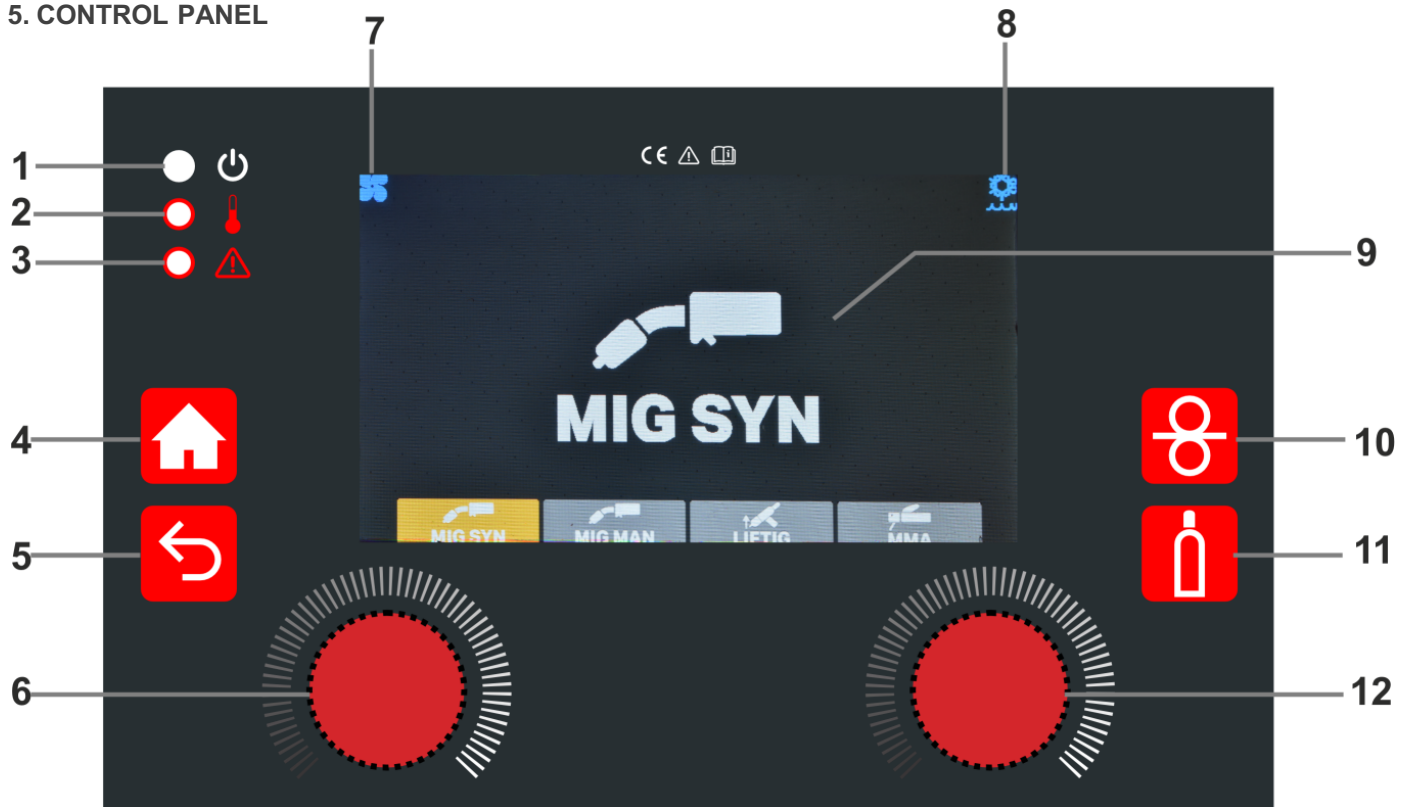
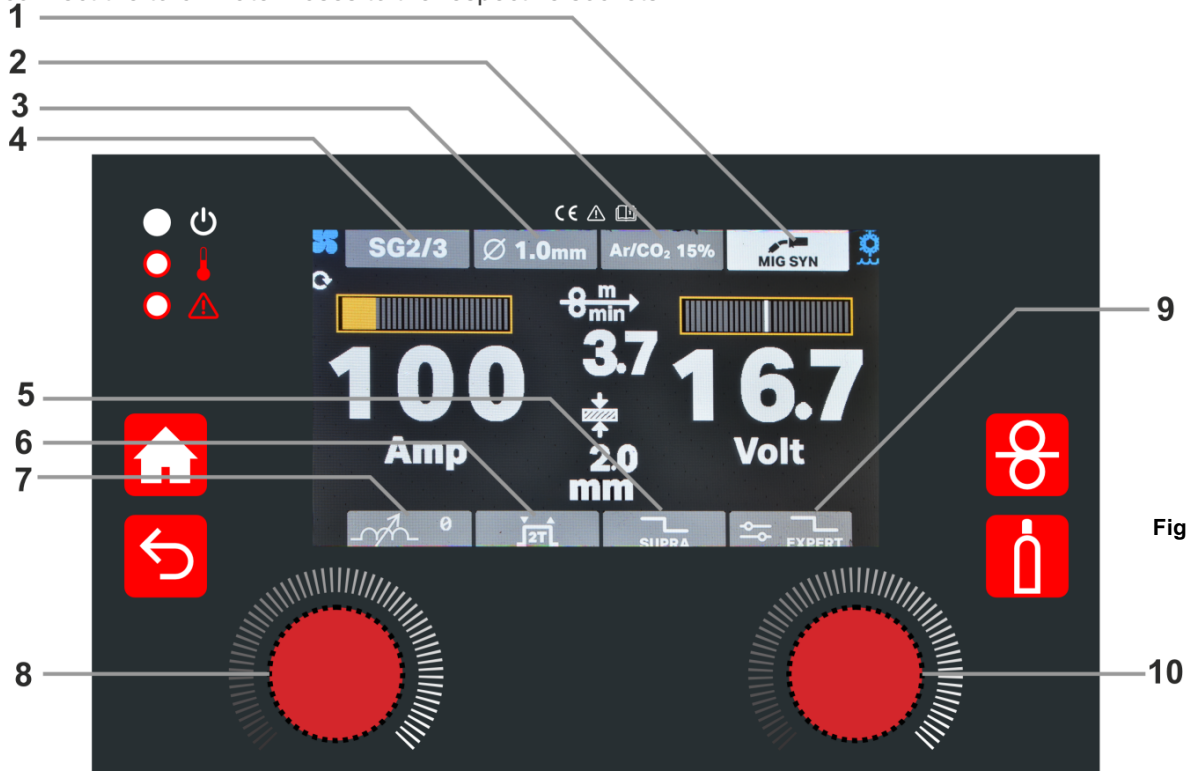
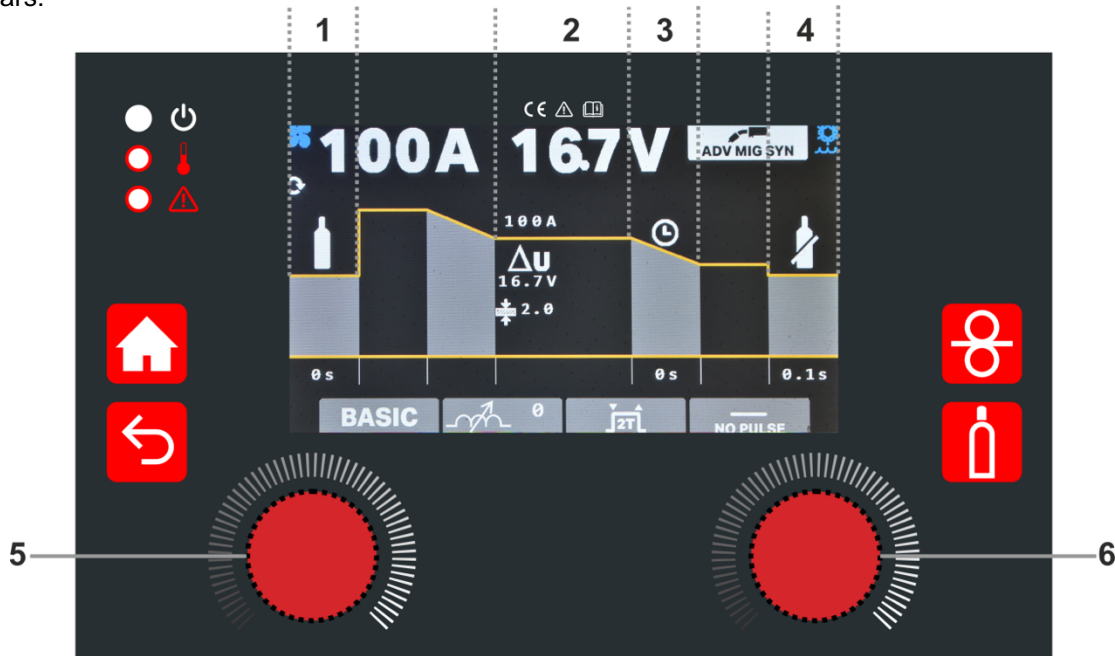
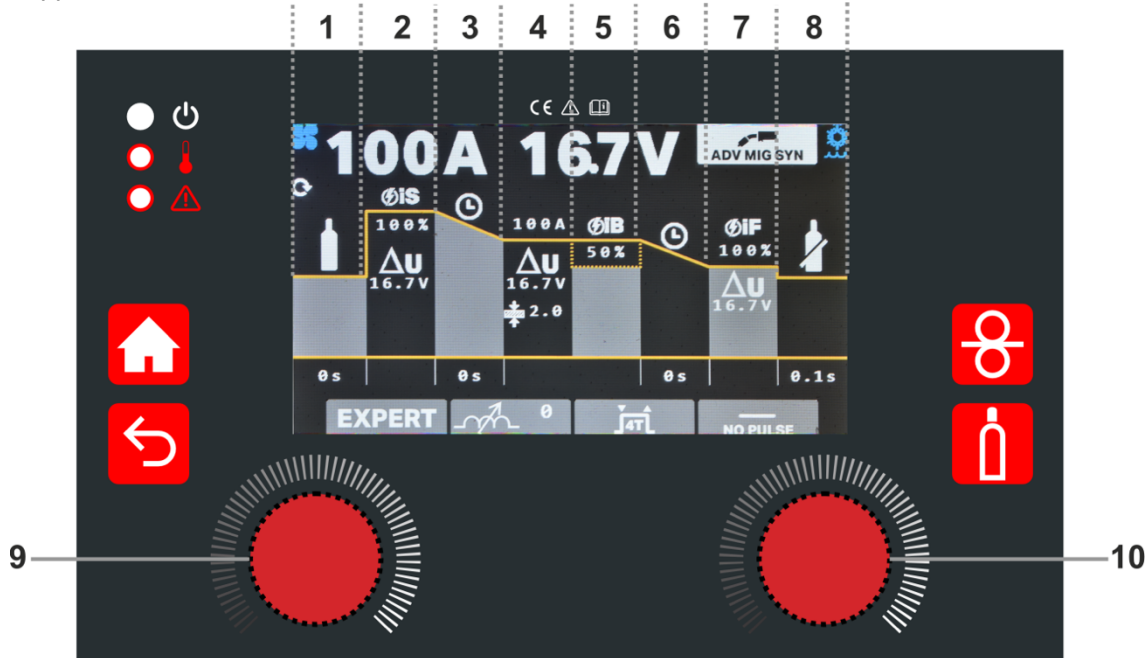

Fig 1.
Fig 5.
Fig. 6
Fig. 8
- Choose the gas type according to the selected welding program on Fig.6 – Welding programs at the following page.
Select MIG/MAG SYN welding mode by pressing right side encoder (10 - Fig. 5) on the respective menu item. You have entered the MIG SYN mode in which you can visualize the respective mode status (1 – Fig.1)
- All menu items when clicked turn red to set their value. Select the material to be welded (menu item 4 – Fig. 5), wire diameter (menu item 3 – Fig. 5) and gas type (menu item 2 – Fig. 5) with right side encoder (10 - Fig. 5) according to the following synergic programs tables:
- Adjust the inductance (menu item 7 – Fig. 5) with right side encoder (10 - Fig. 5): less inductance (narrower arc, more penetration) and more inductance (wider arc, more filling).
- Within the synergic program, you can adjust the welding current with left side encoder (8 – Fig. 5) and with right side encoder (10 - Fig. 5) you can make a fine synergic adjustment.
- You can choose between 2T, 4T or SPOT welding torch mode with right side encoder (10 - Fig. 5):
MIG/MAG Spot mode – When selected indicates that machine is in MIG/MAG Spot welding mode. Turn right side encoder (10 - Fig. 5) to select the SPOT time in seconds. Start spot welding by pressing torch trigger and continuing pressing until the end of the adjusted MIG welding program.
- You can choose between non pulsed short circuit welding and SUPRA (menu item 5 – Fig. 5) with right side encoder (10 - Fig. 5). SUPRA is a type of pulsed welding (an alternation between two levels of power) with short circuit transfer mode (see chapter 8.4 for more information).
In order to enter ADV MIG SYN, turn right encoder (Nr.10 – Fig. 5) until button (nr.9 – Fig. 5) turns yellow. Then press the right encoder’s button. To select BASIC MODE (in ADV MIG SYN) press the right encoder’s button (nr. 6 – Fig. 6) until a parameter turns yellow. Rotate the right encoder until button BASIC/EXPERT turns yellow. Press the right encoder’s button to turn the BASIC/EXPERT button to red. Rotate the right encoder until BASIC mode appears.
In order to enter ADV MIG SYN, turn right encoder (Nr.10 – Fig. 5) until button (nr.9 – Fig. 5) turns yellow. Then press the right encoder’s button. To select EXPERT MODE (in ADV MIG SYN) press the right encoder’s button (nr. 10 – Fig. 8) until a parameter turns yellow. Rotate the right encoder until button BASIC/EXPERT turns yellow. Press the right encoder’s button to turn the button BASIC/EXPERT to red. Rotate the right encoder until BASIC mode appears.
FINAL SYNERGIC ADJUSTMENT	In 2T torch mode, select the final power time in seconds or final power voltage by pressing right encoder (10 – Fig.8) until start power time image is red and turning the same encoder.